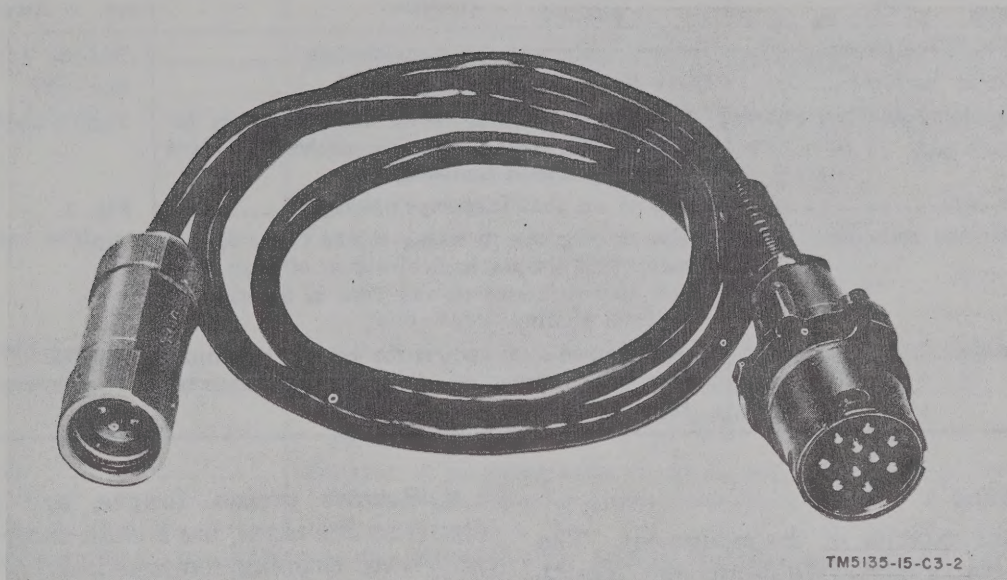

Figure 6.1. Cable, Assembly, Special Purpose, Electrical CX-7474/U.
h.1. To transmit and receive through Receiver-Transmitter, Radio RT-246/VRC or Receiver-Transmitter, Radio RT-524/VRC, Cable Assembly, Special Purpose, Electrical CX-7474/U (figs. 6.1 and 23.1) is used to adapt RADIO receptacle J3 or J4 on the AN/GSA-7 to the RETRANSMIT R/W connector on the RT-246/VRC or RT-524/VRC.
Add figure 6.1 (as added by C 2, 14 Jan 63) after figure 6.